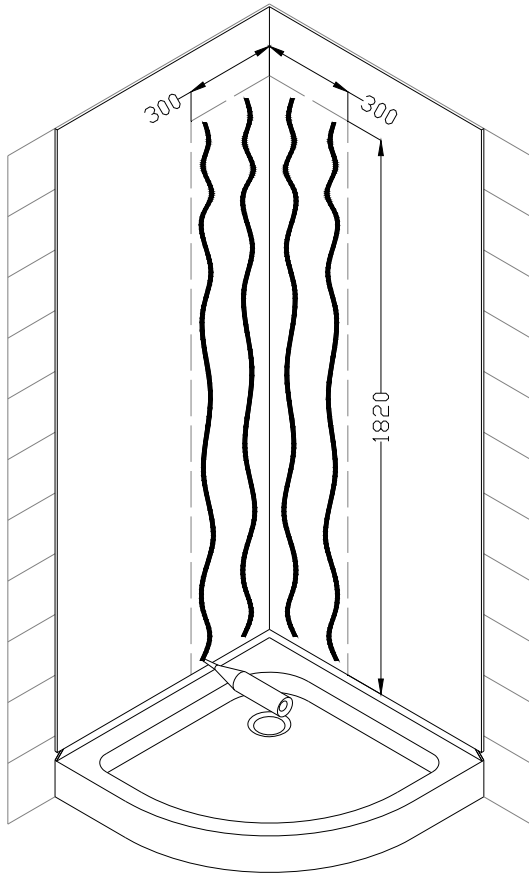
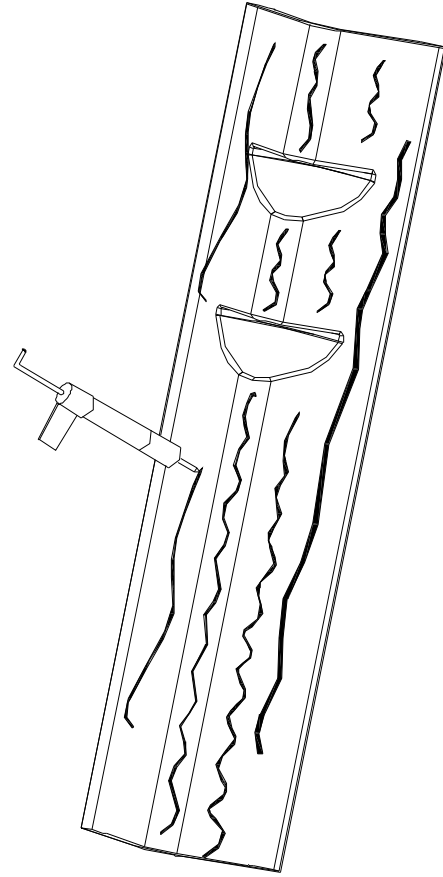

Fig 1
Fig 2
2. Surface must be dry, smooth and free of any dust, soap scum or any other contaminants. Run a bead of silicone or adhesive on the corner wall piece and along the wall area where the wall corner piece will rest. It should be applied on one panel at a time or it will start to set. See Fig 1 and Fig 2 for details.